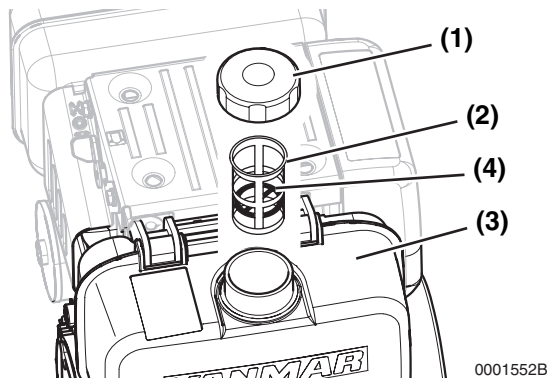

Figure 1
1. Clean the area around the fuel cap (**Figure 1, (1)**).
2. Remove the fuel cap (**Figure 1, (1)**) from the fuel tank (**Figure 1, (3)**).
3. Stop fueling when the fuel is at the same level as the red ring (**Figure 1, (4)**) at the bottom of the inlet fuel screen. NEVER overfill the fuel tank.
4. Replace the fuel cap (**Figure 1, (1)**) and hand tighten. Over-tightening the fuel cap will damage it.